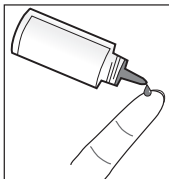

Figure 18
3. Squeeze the bottle again to get a second drop onto a clean, non-absorbent surface or on your finger. See Figure 18.